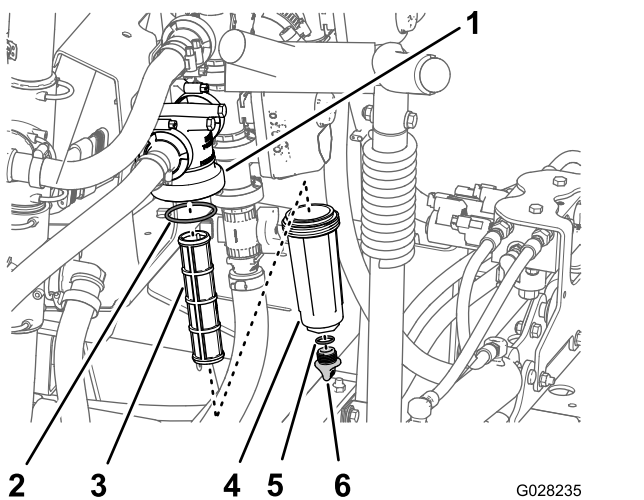

Figure 101
2. Align a drain pan under the pressure filter (Figure 101).
3. Rotate the drain plug counterclockwise and remove it from the bowl of the pressure filter (Figure 101).
4. Rotate the bowl counterclockwise and remove it from its filter head (Figure 101).
5. Remove the old pressure-filter element (Figure 101).
6. Check the O-ring for the drain plug (located inside the bowl) and the O-ring for the bowl (located inside the filter head) for damage and wear (Figure 101).
7. Install the new pressure-filter element into the filter head (Figure 101).
8. Install the bowl onto the filter head and tighten by hand (Figure 101).
9. Install the plug into the bowl and tighten by hand (Figure 101).